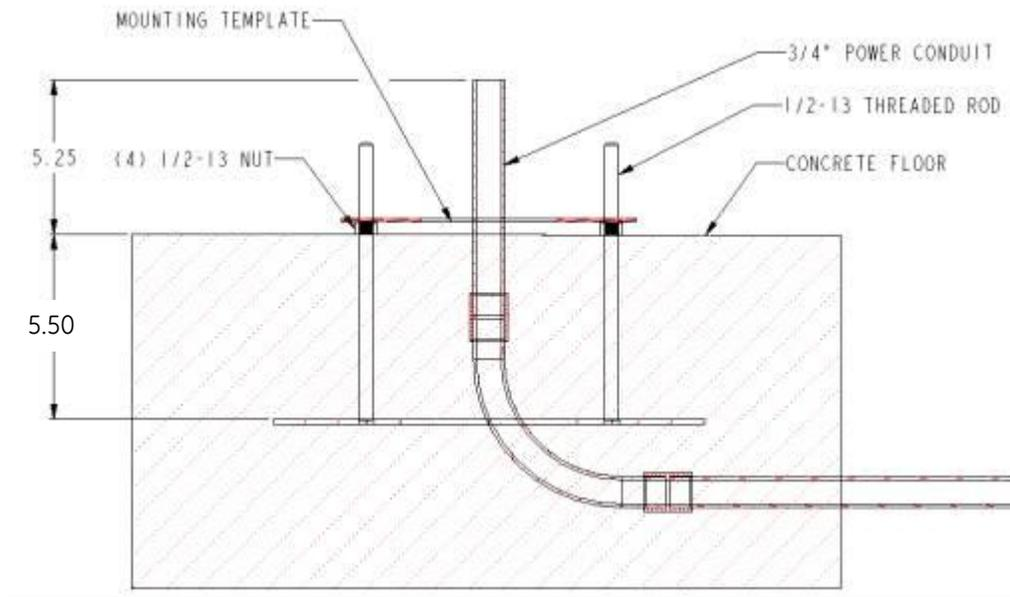

Figure 4
Install two conduits, one for power, and one for communication (if required). Allow approximately 5" length for each conduit above the concrete level as shown in Figure 4. Cut as necessary to final dimensions. Route power conduit and communication conduit through the center of the hole in the mounting template, appropriately.
Adjust (4) ½-13 nuts to position height as shown in Figure 4.
Pour concrete to level shown in Figure 4. Do not cover the ½-13 nuts with concrete. Remove mounting template from threaded rods, after concrete has cured. Do not remove the ½-13 nuts as they are used for leveling the skirt.